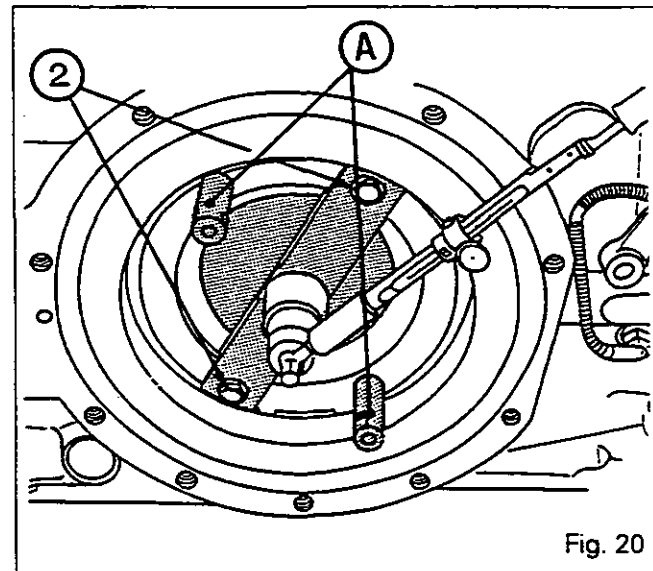

Fig. 20
- 93. Remove the cup (14) and the deflector [13] of the left hand carrier(9). Place the cup on the bearing cone (17).
- 94. Mount tool 3376847 M91 in the housing using two screws (2) tightened to a torque of 85-130 Nm (Fig. 20).
- 95. Tighten the central screw of the tool to a torque of 10 Nm (Fig. 20).
- 96. Fit and tighten the hexagonal calibrated spacers (A) (Fig. 20) in the two other holes. Ensure they are in contact with the housing..